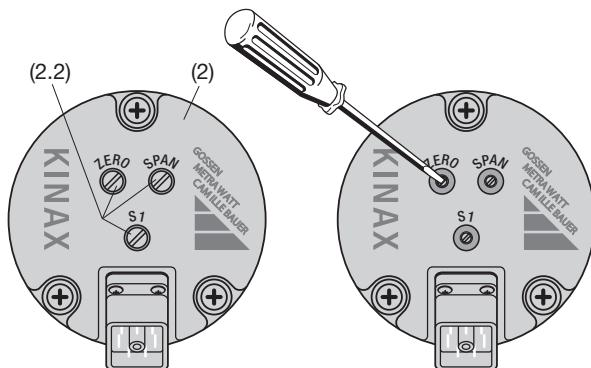
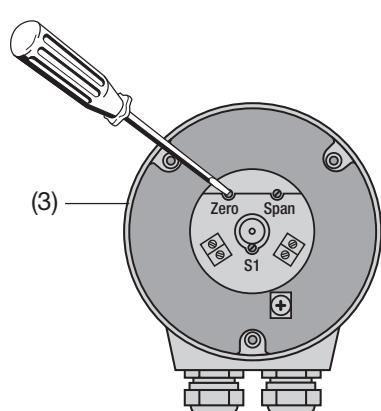

Fig. 12. Rear (2) of the transmitter with the adjustments "ZERO", "SPAN" and "S1".
Fig. 13. Rear (3) of the transmitter with the adjustments "ZERO", "SPAN" and "S1".
- ... with **plug-in connector** remove the ZERO/SPAN sealing screws (2.2) (Fig. 12, left).
Then adjust the "ZERO" potentiometer (Fig. 12, right or Fig. 13) using a watchmaker's screwdriver (2.3 mm diam.) so that the desired output current flows.
A switch is provided on angular transmitters with a measuring range > 150 ° for reversing the direction of rotation. It is marked S1 (Fig. 12 and Fig. 13).
- ... with **plug-in connector** remove the S1 sealing screw (2.2) (Fig. 12, left).